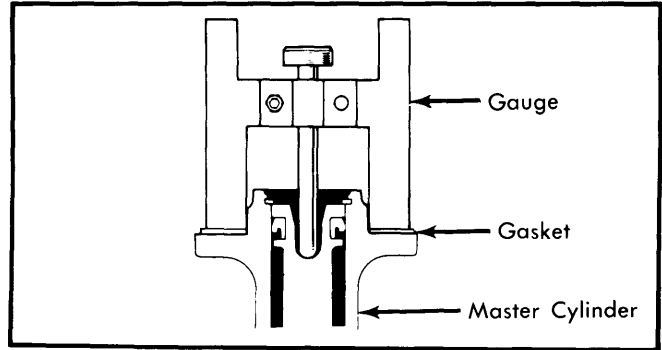

Fig. 23 Adjusting Push Rod Clearance With Gauge
3) After installation, adjust push rod length using depth gauge (09737-00010). Place gauge on master cylinder (with gauge gasket installed if equipped) and turn pin until tip touches piston. See Fig. 23. Without disturbing gauge setting,